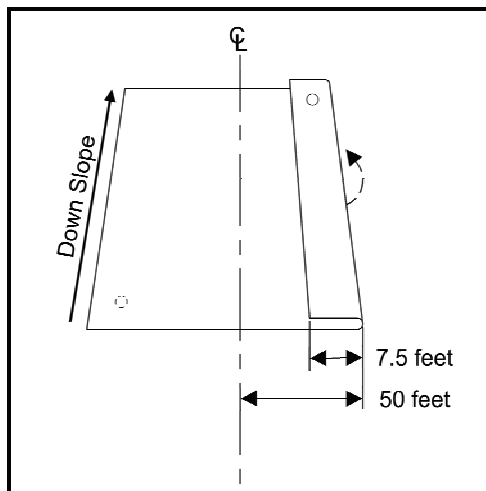

Figure 15. Folding the edge to center.
2. Fold the folded edge to center (Figure 15).